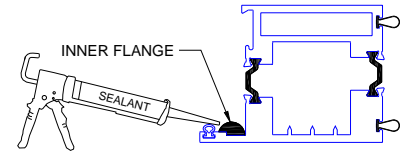

Figure 16:
2. Before glazing, apply a 1/4"x1/4"x6" bead of compatible sealant from each corner on inner flange of panel (Figure 16).